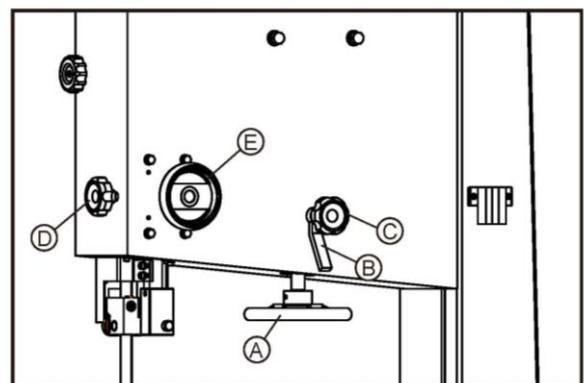

Fig.4.4.2
Place the blade onto the bandwheel checking the teeth are in a correct position, and then tighten the tension using the handwheel (A of FIG.4.4.2). The correct tension value is indicated on the tension scale inside the upper door, the indicated value corresponds to the width of the blade.
- Turn the bandwheels manually, checking that the blade does not interfere with any fixed parts and that the blade is placed correctly on the bandwheels. The points of the teeth should slightly protrude over the edge of the bandwheels. To adjust the blade position on the bandwheels slacken the locking lever( B of FIG.4.4.2), and then turn the knob(C of FIG.4.4.2): the blade will move inwards when turn the knob clockwise and the blade will move further out when turn the knob anticlockwise; A quarter of one circle is sufficient to make a noticeable displacement. Tighten the locking lever after the blade is positioned correctly.
The adjustable saw band guard should be positioned as close as possible to the workpiece. To adjust the height, release the locking knob(D of Fig.4.4.2 ) and turn the handwheel (E of Fig.4.4.2) to adjust the guard up or down. Lock the knob once the correct position of guard is obtained.
The adjustable saw band guard should be positioned as close as possible to the workpiece. To adjust the height, release the locking knob (D of Fig.4.4.2 ) and turn the handwheel (E of Fig.4.4.2) to adjust the guard up or down. Lock the knob once the correct position of guard is obtained. This operation must always be carried out while the machine is stopped.